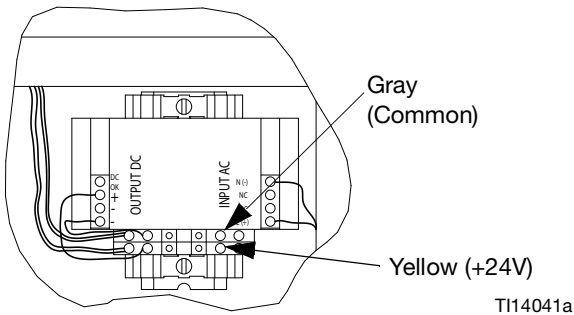

FIG. 2: Power Terminal Connections
- 4. Connect yellow and gray wires from beacon to the power terminal. See FIG. 2.
3. Connect yellow and gray wires from beacon to the power terminal. See FIG. 2.